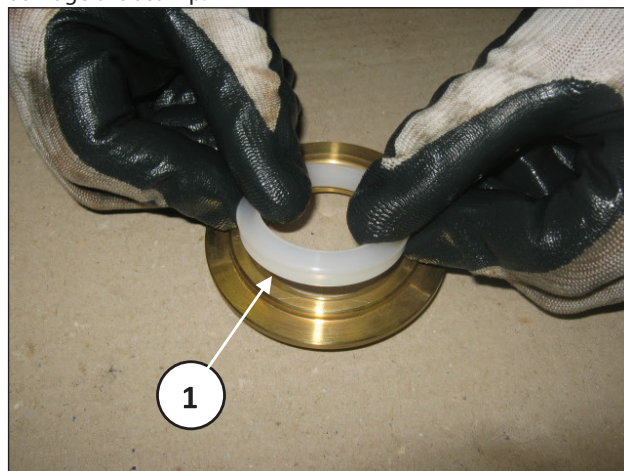

Fig. 125
Assemble the wiper in the housing on the support (pos. ①, Fig. 125) using a buffer as necessary and taking care not to damage the seal lip.